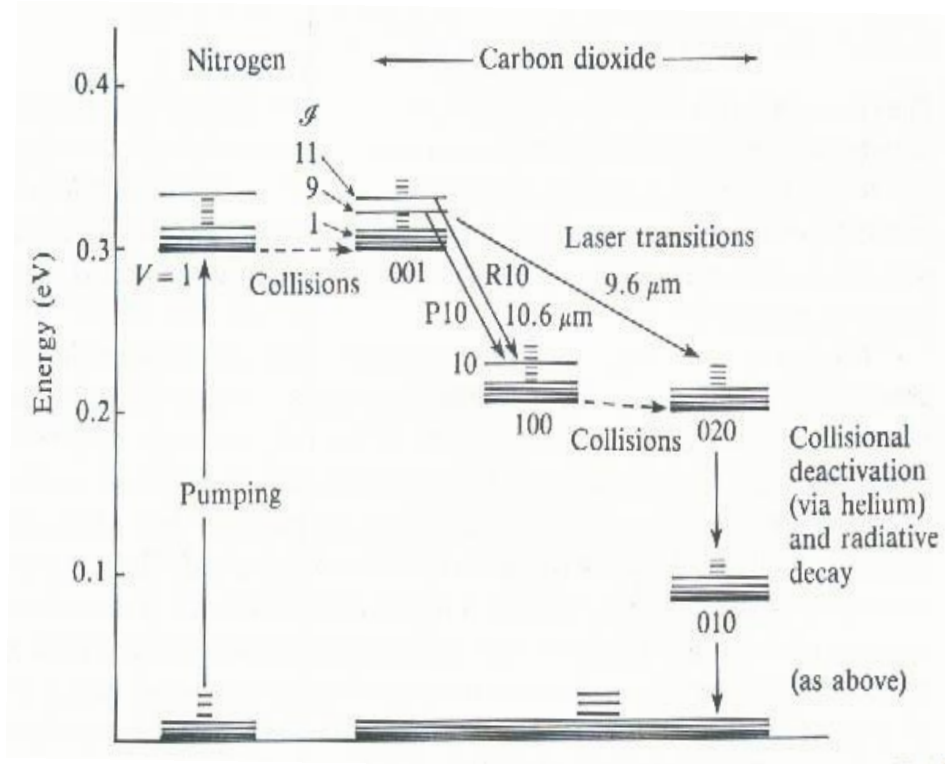

Figure 2.15: Energy Level Diagram of CO₂ Laser.
Electric discharge is created in the laser tube. The energy of the accelerated electrons is transferred by collisions to the Nitrogen molecules and to the CO₂ molecules. As in the He-Ne laser, excitation is a two-step process, this time with nitrogen involved as the intermediary. The first vibrational levels of N₂(V=1) are close to the (001) vibrational levels of CO₂(as can be seen in figure 2.15), so energy can be easily transferred from the excited Nitrogen molecules to the CO₂ molecules. This excitation process is very efficient process for many factors, among these factors:
Lasing transitions in CO₂ laser occur when the molecule is going from higher energy level of the asymmetric mode(001) into one of the other two (see Fig. 2.15):
1. The transition to the symmetric stretching mode(100) corresponds to the wavelength of 10.6 μm .
2. The transition to the bending mode(020) corresponds to the wavelength of 9.6 μm .